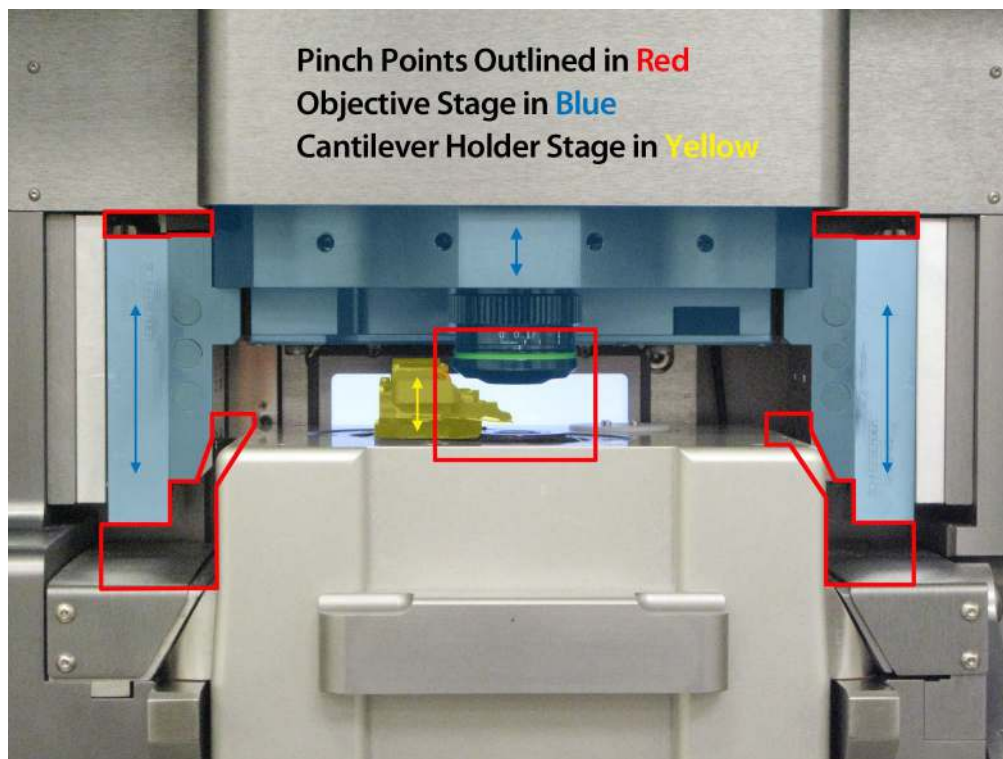

Figure 1.1.: Areas to avoid in particular when motors are driving the objective lens or cantilever holder. Tinted parts can move as shown by the arrows.
- Familiarize yourself with potential pinch points. Figure 1.1 on page 5 indicates the areas of concern: directly under the objective lens and cantilever holder, at the edges of the scanner module, and both above and below the two cross-roller bearing stages.